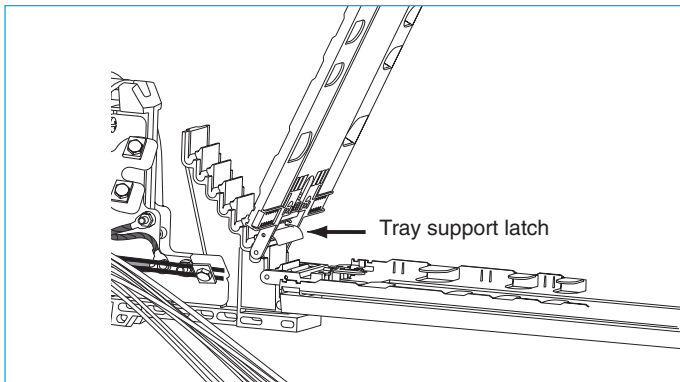

Figure 33.
10.1.1 If multiple trays are present, fill the bottom tray first. Use the tray support attached to the bottom of the second tray to hold it out of the way. (Figure 33)